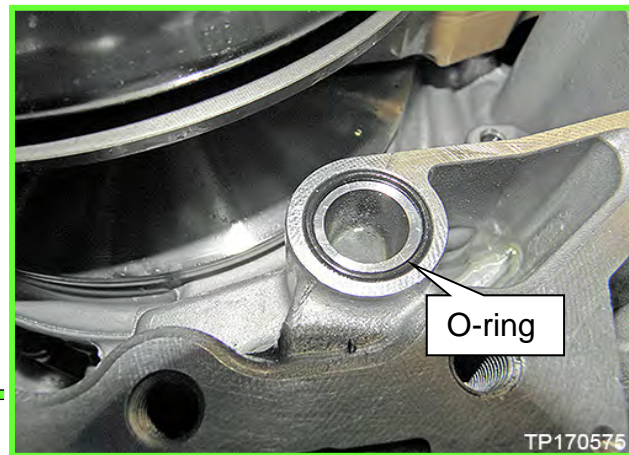

Figure 84
61. Remove the O-ring from the CVT case (Figure 84).